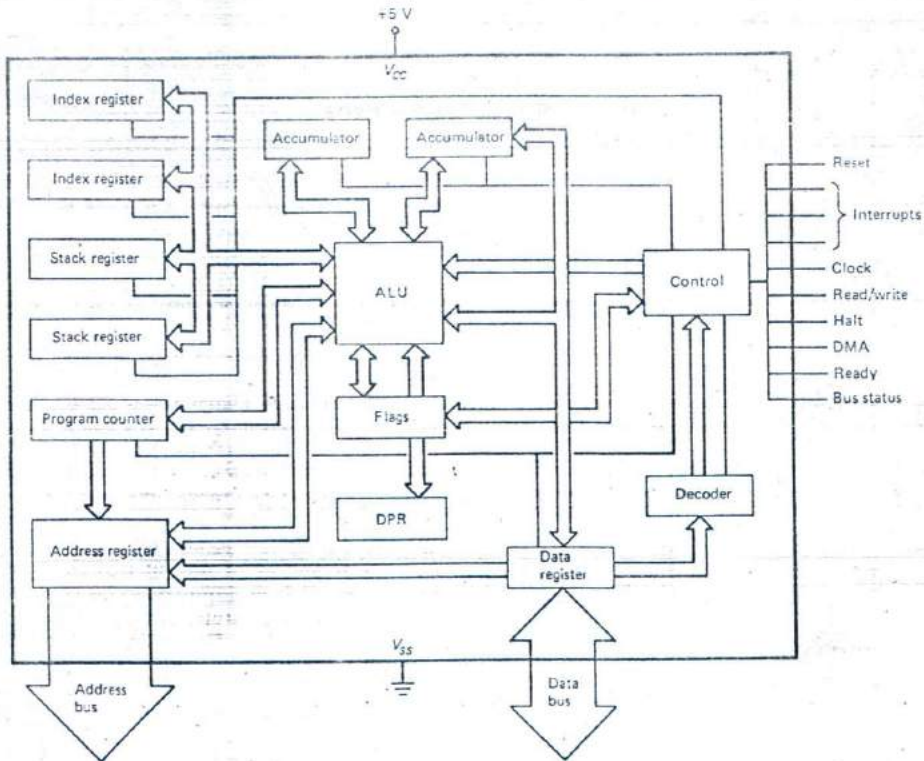
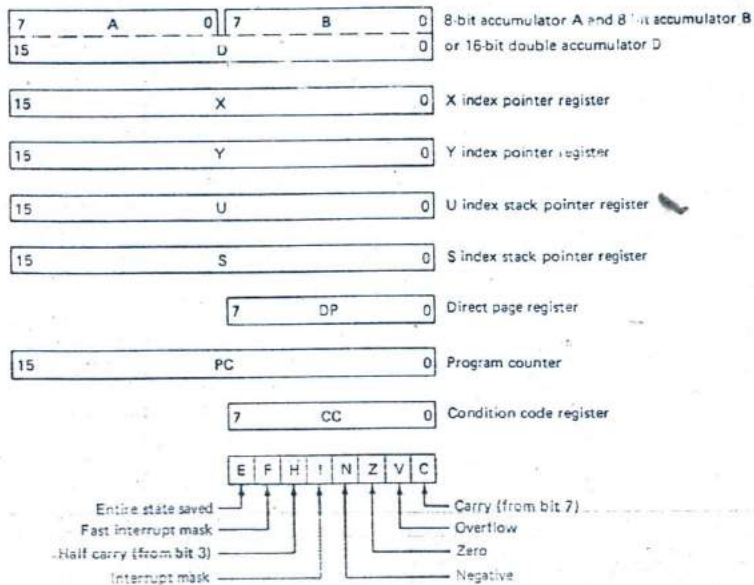
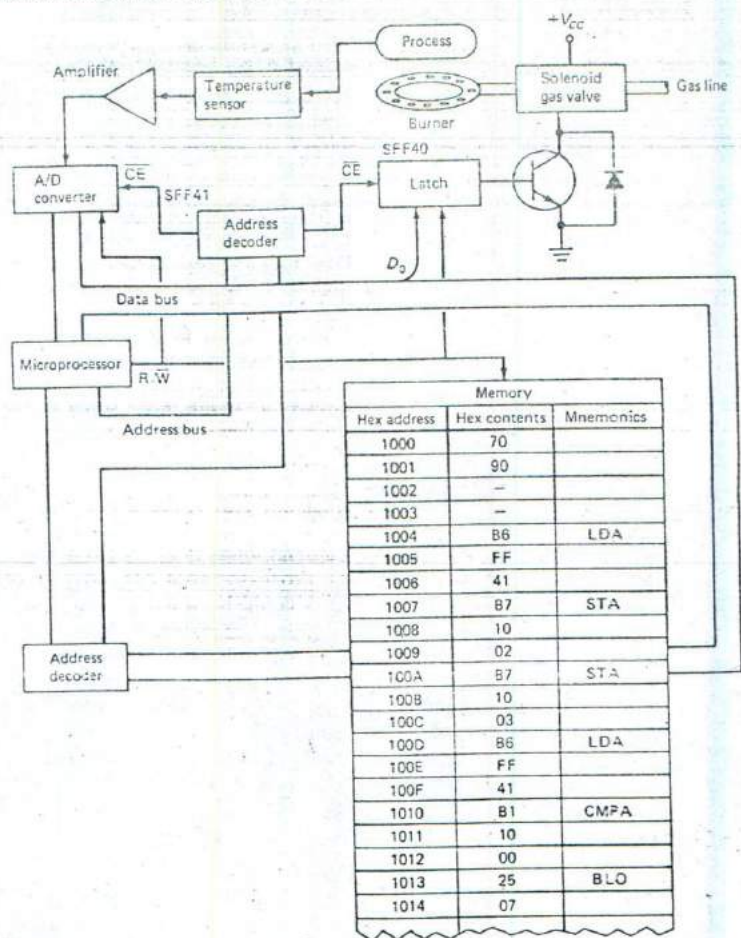

Fig. 12-1 Typical microprocessor architecture.
Fig. 12-2 Programmer's model.
Fig. 12-5 Microprocessor temperature controller.
Figure 12-1 shows some of the internal details of the Motorola MC6809 microprocessor. It is consid-
ered to be one of the most powerful of all 8-bit microprocessors. However, any industrial setting will probably use several types. Much of what you learn about the Motorola MC6809 will transfer to other types of microprocessors. The *arithmetic logic unit* (ALU) is located near the center of the drawing in Fig. 12-1. It represents that section of the processor that is used to perform all arithmetic, logic, and boolean operations. Just above the ALU, we find the *accumulators*, which are each 8 bits wide and are used to hold the intermediate and final results of the various operations. Just below the ALU is the *condition code register* (also called the *flag register*). It is also 8 bits wide, and the various bits (flags) indicate the status of the processor and give information about carries, borrows, and related conditions created by ALU operations. The *data register* is a temporary storage area for the data bus and connects to various sections of the processor such as the decoder. The decoder looks at instructions that come into the processor on the data bus and sends information to the control section. The controller routes signals, times events, and sequences the various registers and circuits. Now, let's look at the *program counter*. It is 16 bits wide and connects to the address register and then on to the address bus, also 16 bits wide. This gives the microprocessor 2^{16} or 65,536 unique addresses, usually designated 64K, as discussed in Chapter 11.
Four other 16-bit registers are shown in Fig. 12-1. These are the index and stack registers. These registers serve mainly as pointers to the 64K address space. They are useful for setting up some sections of memory as data tables and stacks. They are also handy for moving sequential sections of memory around and as 16-bit counters or timers. The last section of Fig. 12-1 to be considered is the *direct page register* (DPR). This is an 8-bit register that makes up the upper byte of a 16-bit address for one of the addressing modes. The various addressing modes will be discussed in a later section.
Even though Fig. 12-1 is grossly simplified, it contains more detail than most people need. Figure 12-2 shows a programmer's model of the MC6809 microprocessor, which indicates those registers that are usable by a programmer. The other internal details are not necessary and are said to be *transparent* from a user's standpoint. The programmer's model shows
Figure 12-5 shows some of the hardware that would be required for the temperature controller. A solenoid-driven gas valve allows the processor to turn the gas off and on. By writing a 1 to the latch, the valve is turned on. Writing a 0 to the latch turns the gas off. Note that D0 (least significant bit of the data bus) is sent to the latch for this purpose. An analog-to-digital (A/D) converter is used to change the analog temperature signal to an 8-bit word. The digital output of the A/D converter is connected to the data bus.
The memory in Fig. 12-5 starts at S1000. The first two memory locations hold the lower temperature limit (hex 70) and the upper temperature limit (hex 90). Since these are contained in memory, it would be a simple matter to change them. This capability is one of the key attributes of microprocessor-based systems. The next two locations are reserved for the low temperature reading and the high temperature reading. They are marked with a dash since the memory contents here will change as the program runs. The control program itself begins at hex S1004, and the contents here are hex B6 or binary 10110110. Remember, the microprocessor reads the binary contents, and hex is simply a shorthand notation for humans. B6 is an *operation code* (normally abbreviated OP-CODE). It tells the microprocessor to load accumulator A with the contents of the location specified by the next two bytes in memory. Note that the next two bytes are SFF and S41. This means that accumulator A will be loaded from address SFF41, the address of the A/D converter. It is very difficult
Please note that the memory in Fig. 12-5 contains constants, variable data, OP-CODES, and addresses. How does the microprocessor know which is which? It doesn't. A microprocessor runs a *fetch-execute cycle*. It must start by fetching an OP-CODE from the correct address. In our example, the program counter must contain S1004 when the first fetch occurs. The contents of location S1004 are loaded into the microprocessor and go on to the decoder since the microprocessor is in a fetch phase. Then SB6 is decoded, and the controller inside the microprocessor advances to the execute phase. It reads the next two bytes in memory and loads them into the address register (refer to Fig. 12-1). The address register now contains SFF41, and the address bus shows that bit pattern. The microprocessor completes the execute
counter contains the address of the A/D converter, and the fetch phase is begun. The processor has no inherent intelligence and will attempt to decode whatever byte the converter happens to place on the data bus. Obviously, the results will be unpredictable. When this happens, the system "crashes." Control is usually lost, and a reset is required to restore operation. It is the responsibility of the programmer to arrange memory contents so that OP-CODES are fetched when they are supposed to be. The program must also begin operating at the correct place. If the program in Fig. 12-5 is executed starting at \$1000, unpredictable results will occur and the system will crash. A crash will not damage the processor or the memory devices, but it could cause severe consequences in the industrial environment. For example, the gas valve could be turned on and stay on indefinitely.
5. Refer to Fig. 12-5. If accumulator B contains \$01, what happens when it is stored to address \$FF40?
6. In Fig. 12-5, B6 at memory location S1004 is an example of a(n) _____.
7. Could the program of Fig. 12-5 be run out of ROM? Why?